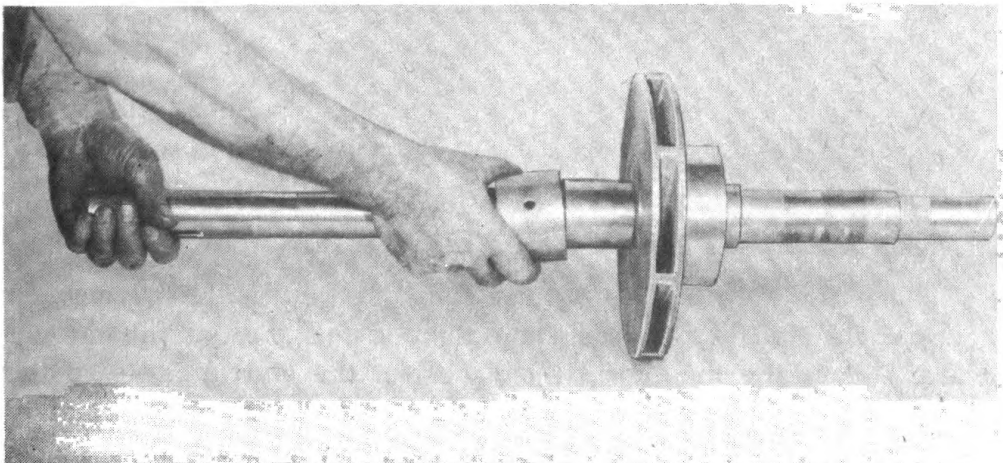

Figure 38—Removing Shell Bushing and Separator Sleeve
c. The next step is to remove the shell bushing and separator sleeve (figure 38). To remove the right hand shaft sleeve unscrew